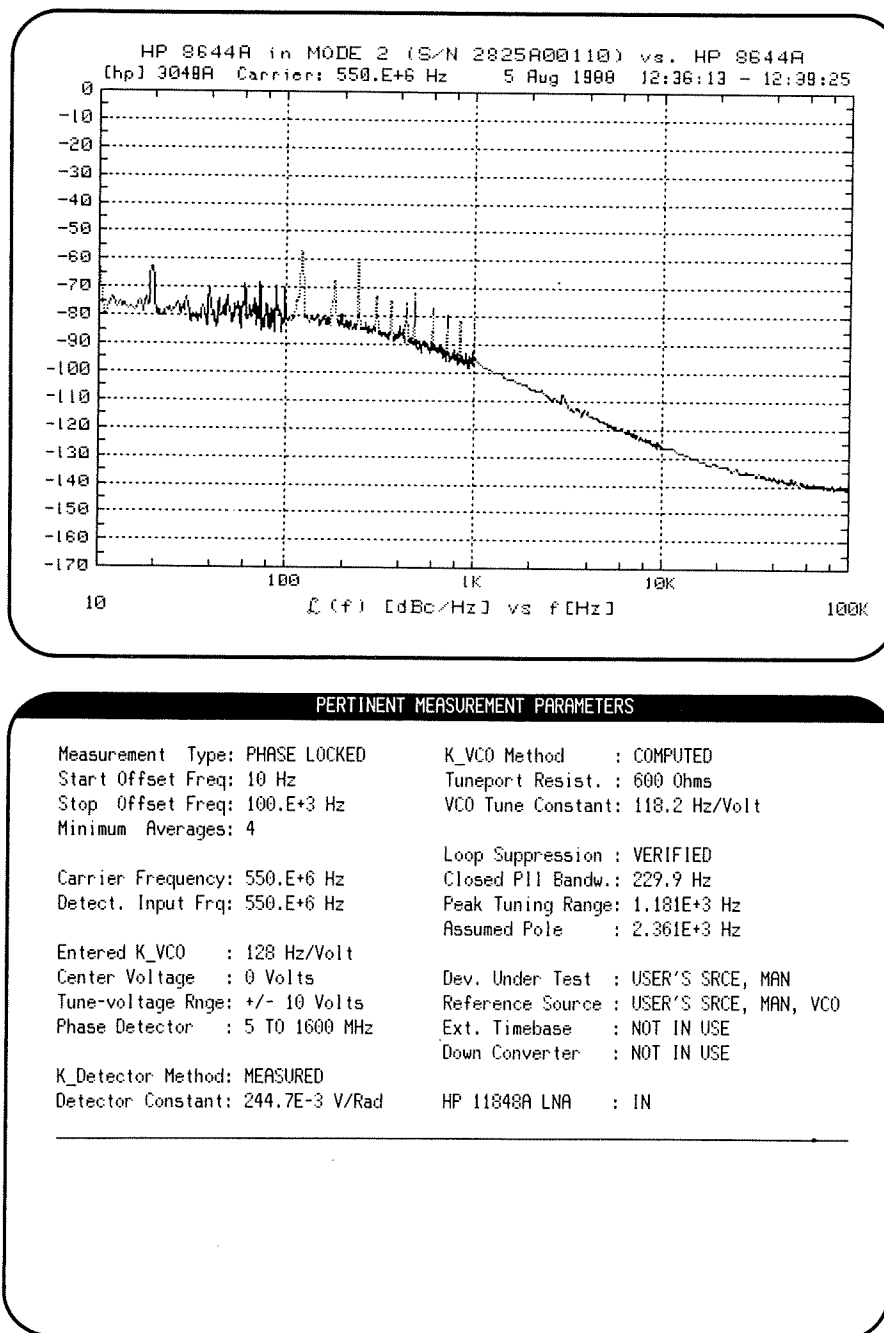

Figure 3-13. Phase Noise Plot and Pertinent Measurement Parameters
13. When the connect diagram appears on the display, verify that the instrument connections are properly made then press the **Proceed** softkey. The phase noise measurement should proceed without error and the phase noise plot should appear as in figure 3-13. Ignoring spurious signals, the phase noise ($\mathcal{L}(f)$) should be less than -91 dBc at a 1 kHz offset frequency, less than -128 dBc at 20 kHz, and less than -138 dBc at 100 kHz. Spurious signals for offset frequencies greater than 20 kHz should be down more than 100 dBc.
Figure 3-13 also shows a listing of measurement parameters. This listing with the graph itself can be printed by holding down the keyboard's SHIFT key and pressing the **Hard Copy** softkey.